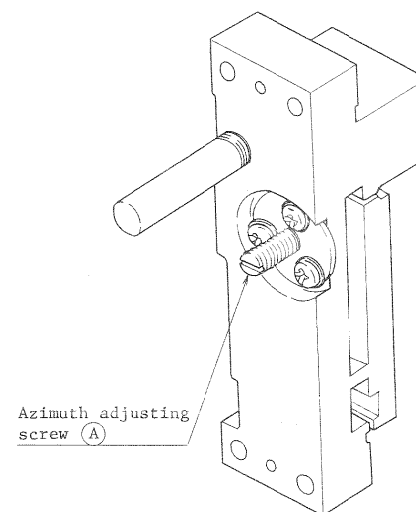

Fig. 3 Head block figure observed from back of mechanic panel
2. Trigger the read output of Track 1 and observe the phase difference with the Read output of Track 9 in the same way as in the azimuth check above. Turn the azimuth adjusting screw (A) (Fig. 3) with a screwdriver and adjust the phase of the two waveforms.